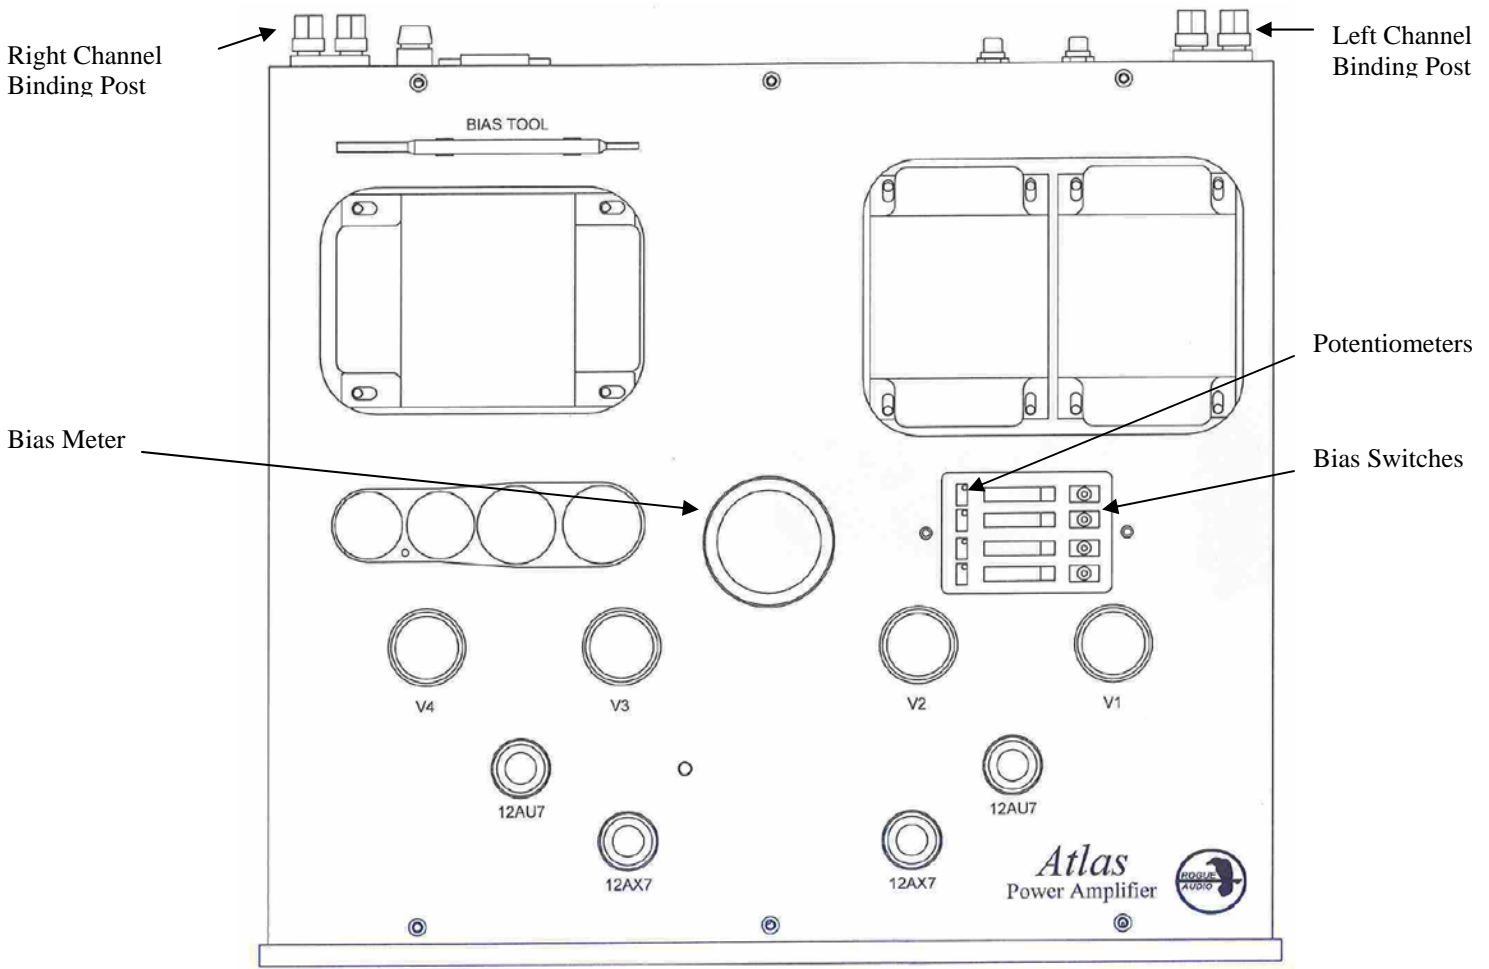

Figure 1 Tube and Deck Layout
3. Insert the tubes into the proper locations. Refer to Fig. 1 The output tubes will be marked per the figure. (ie V1, V2 etc.)
- 5) The bias tool is snap attached to the top deck cover behind the power transformer. Refer to Figure 1.